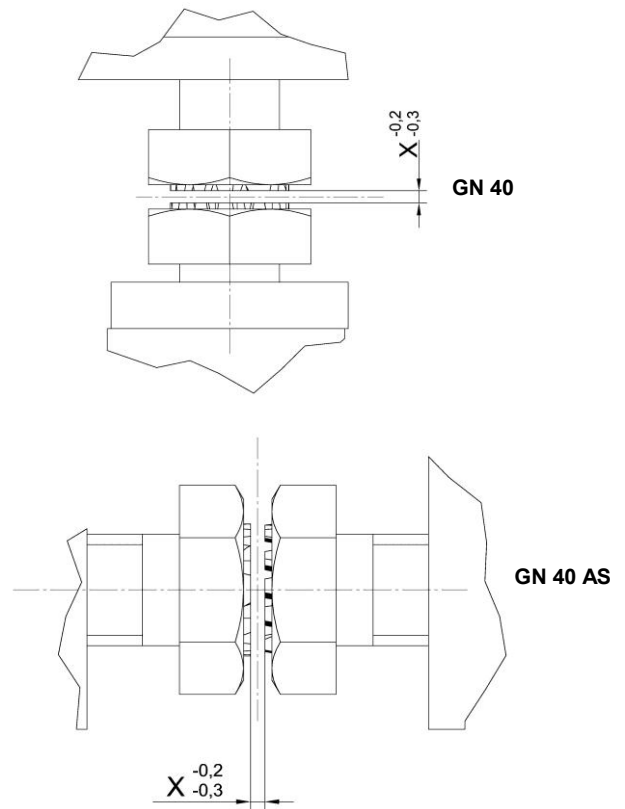

Fig. 4
- Adjust space between gripping lever/contour piece (see fig.4) Adjusting dimension: workpiece dimension X + preload (-0.2 – 0.3 mm).